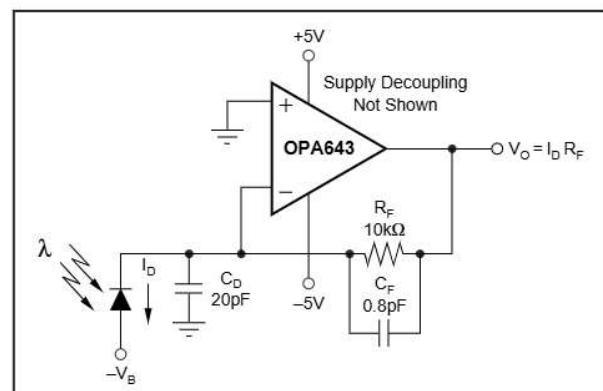

FIGURE 3. Wideband, Low Noise, Transimpedance Amplifier.
High Gain Bandwidth Product (GBP) and low input voltage and current noise make the OPA643 an ideal wideband transimpedance amplifier for low to moderate gains. Note that unity gain stability is not required for application as a transimpedance amplifier. Figure 3 shows an example photodiode amplifier circuit. The key parameters of this design are the estimated diode capacitance (CD) at the applied DC reverse bias voltage (-VB), the desired transimpedance gain (RF), and the GBP for the OPA643 (800MHz). With these three variables set (and adding the OPA643's parasitic input capacitance to the value of CD to get CS), the feedback capacitor value (CF) may be chosen to control the transimpedance frequency response.
Adding the OPA643's common-mode and differential mode input capacitances (1.3 + 2.5)pF to the 20pF diode source capacitance of Figure 3, and targeting a 10kΩ transimpedance gain using the 800MHz GBP for the OPA643, the required feedback pole frequency is 16.4MHz. This will require a total feedback capacitance of 1.0pF. Typical surface mount resistors have a parasitic capacitance of 0.2pF, leaving the
required 0.8pF value shown in Figure 3 to get the required feedback pole.
The example of Figure 3 will give approximately 23MHz flat bandwidth using the 0.8pF feedback compensation.